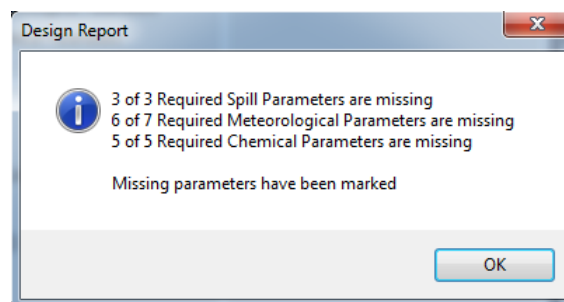

Figure 2-5: Error Messages – input missing
3. Module specific validation (see Figure 2-5: Error Messages – input missing)